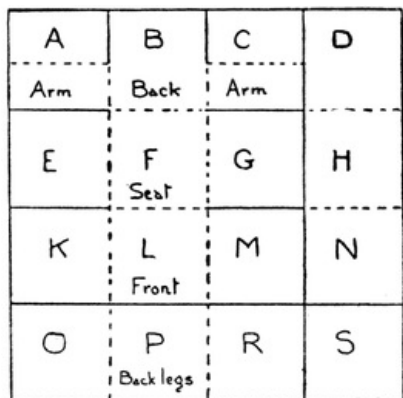

FIG. 26
**An Arm-chair.** Begin with square folded into sixteen parts (Fig. 26), cut off one quarter D H N S, again cut off one quarter O P R. Cut remaining square as in diagram. Gum E to A and G to C. Cut these squares to form arms. Gum O to K and R to M to form back legs and sides. To strengthen chair cut off N from D H. Gum H to P and D to B. The corners of B are rounded. Coloured paper can be pasted over the arms and in the middle of back, seat and